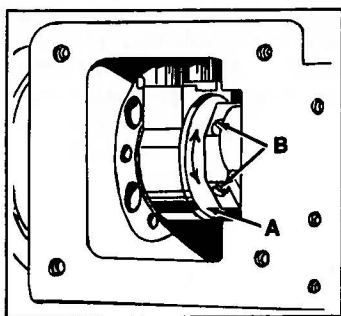

FIGURE 15
The timing of the spreader travel is determined by the position of the spreader drive eccentric (A, Fig. 15) on the crankshaft. To check the timing, rotate the handwheel so that the needle bar is at its highest point. Continue to rotate the handwheel until the needle bar has descended $\frac{1}{8}$ inch (3.18 mm). The spreader should now begin to move to the right. To change the spreader timing, loosen screws (B), then advance or retard eccentric on the shaft as required. Tighten screws (B).